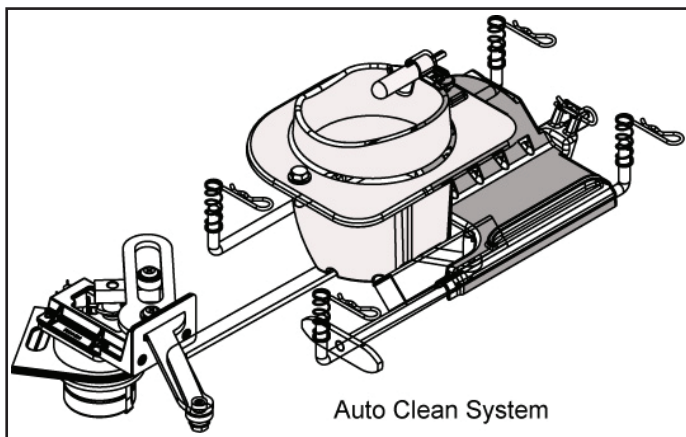

Figure 22.1
- b. Open the firebox door. Inspect the auto-clean springs: **Fig. 22.1**